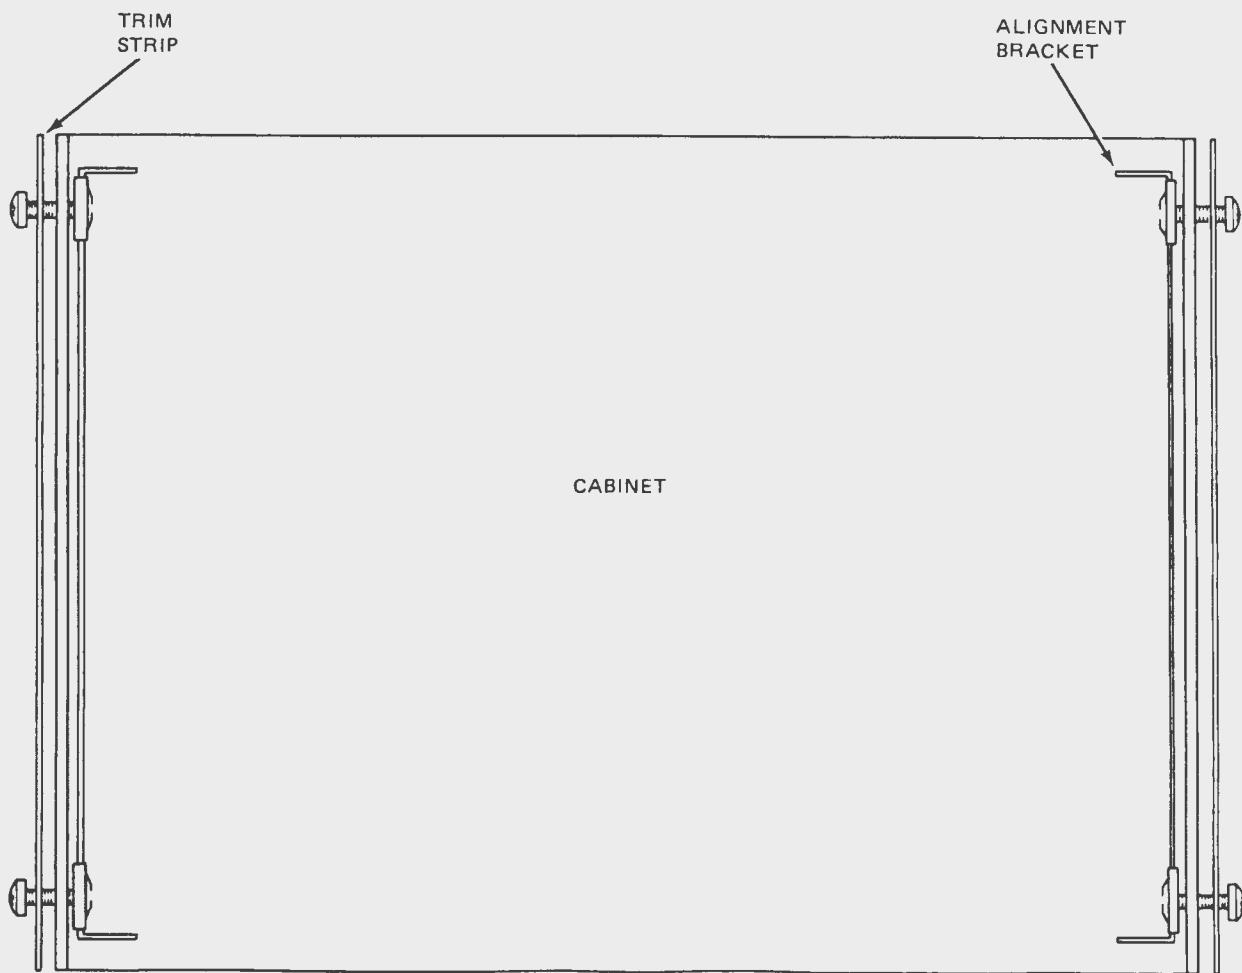

Fig. 18. Mounting the trim strips and the alignment brackets on the cabinet bottom.
(12) Next, locate two of the black Phillips-head 8-32 screws. Put the screws through the two holes on one side of the black trim strip, and through the holes in the cabinet half on which you mounted the feet. Then screw them into the Tinnerman nuts on the cabinet aligning brackets as shown in Fig. 18. Do *not* tighten the screws. Do the same thing with the second cabinet trim strip and alignment bracket on the other side of the cabinet bottom .....( )
(13) Now carefully lift the signal tracer and lower it inside the cabinet bottom so that the alignment brackets are on the inside of the front and back panels .....( )